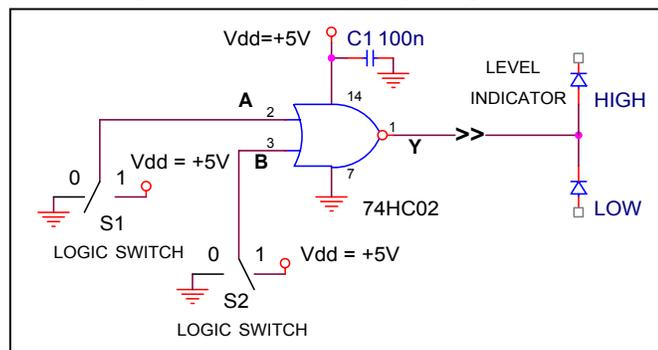

Figure 5.9 The 2-input NOR gate.
2.1. Connect the 2-input NOR gate (74HC02) as shown in Figure 5.9. Remember to leave the Power Supply turned off, until you are sure that your circuit is wired correctly. Connect the Y (output) of the gate to the Logic Level Indicator. Connect the input A to the LOGIC SWITCH S1 and input B to the LOGIC SWITCH S2 of your PROTO-BOARD.